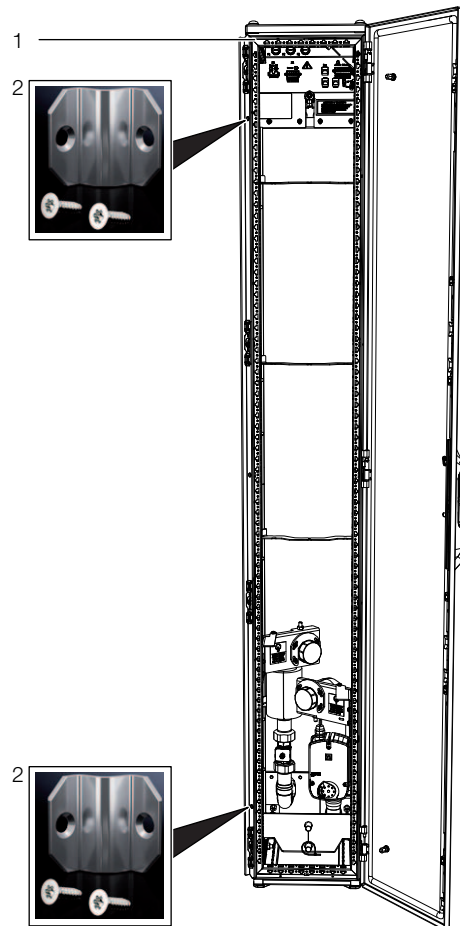

Fig. 38: LCP Rack – rear
- Using the corresponding assembly screws, fasten four baying connectors each (5301.310, fig. 38, item 2) onto the attachment points provided in the mounting strips on the front and rear of the LCP Rack or LCP Inline Flush (fig. 38, item 1).